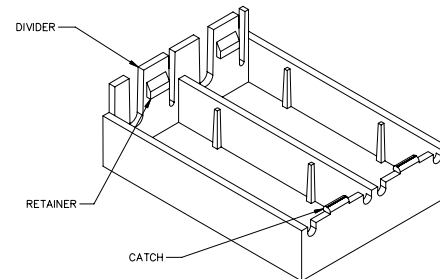

Figure 2
- 3.1.3 Engage the right end ledge under the catch. (See Figure 2)